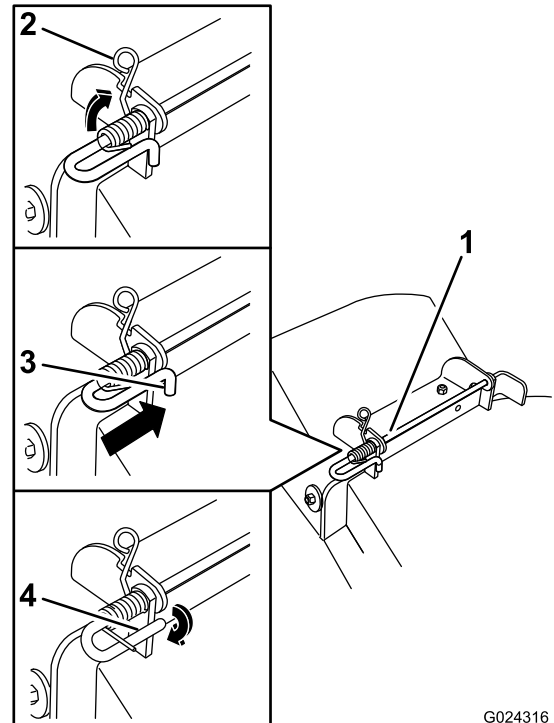

Figure 71
5. Lift the loop end of the spring and place it into the notch on the deflector assembly bracket (Figure 71).
6. Secure the rod and spring assembly by twisting it so the short end of the rod can be placed behind the front bracket welded to the deck (Figure 71).